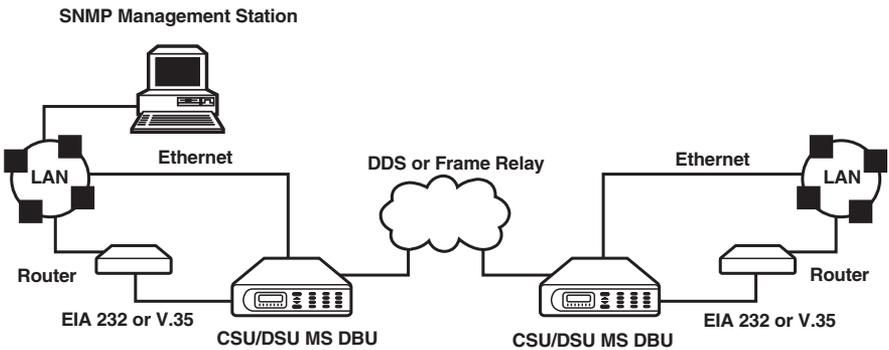

Figure 4-2. Ethernet LAN Application with SNMP/TELNET Management.
- A LAN. Connection is made through the optional 10BASE-T Ethernet interface provided on the SNMP Ethernet Module (part number MT140C). See Figure 4-2.